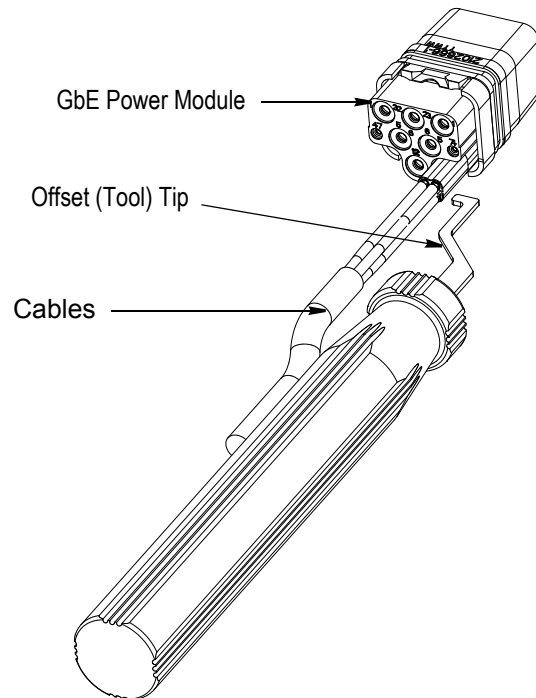

Figure 2
Insertion tool 2161946-1 is designed to insert DATA DART pin and socket contact kits (assemblies) into GbE Power Modules (refer to Figure 2).
2. Position the cables so that the tool can be positioned as shown in Figure 2 without causing unwanted interference between the tool and the wire.